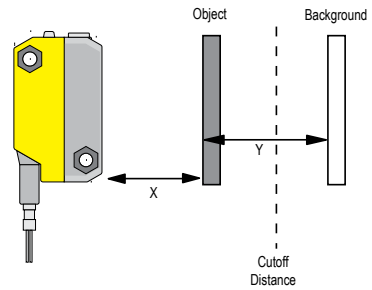

Figure 3. Set cutoff distance approximately midway between the farthest target and the closest background
6. Turn the adjustment pot **counter-clockwise** half the number of turns from step 5. This will place the cutoff distance midway between the object and the background switchpoints (See Figure 3). The sensor is ready for operation.